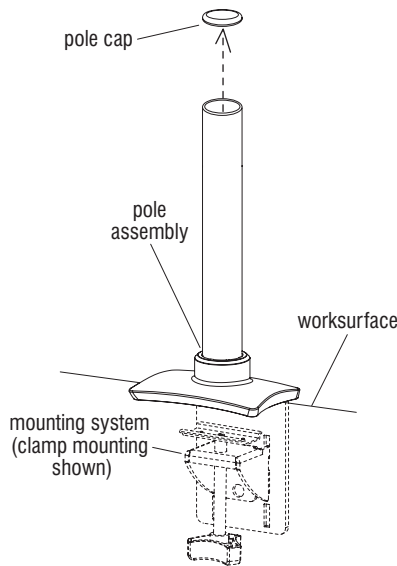

Figure 1
1. If pole assembly mounting systems have not been installed, reference "Clamp Mounting Systems" instructions on page 1 or "Drill Mounting Systems" instructions on page 2 before continuing (Figure 1).
3. Twist the pole cap off the pole assembly, but save to place back on pole once all components have been installed (Figure 1).